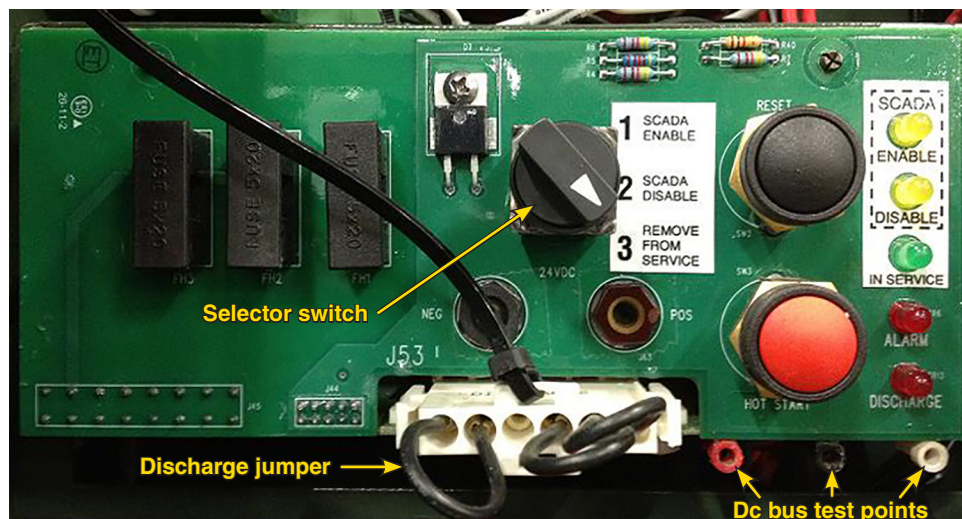

Figure 15. Selector switch in “REMOVE FROM SERVICE” with discharge jumper.
2. Install the discharge jumper. See Figure 15. Confirm that there is no voltage on the load side of the unit by measuring AC and DC voltage between